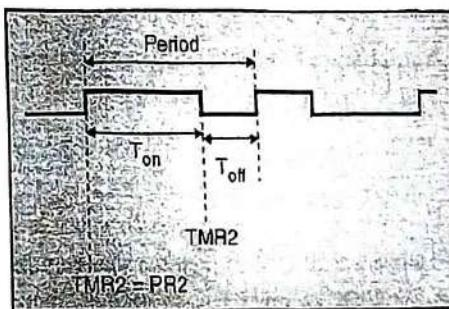

Fig. 1.10.4 : PWM output
- A PWM output has a fixed period and a varying time for which the output stays high as shown in Fig. 1.10.4. The frequency of the PWM is the inverse of the period (1/period). The duty cycle is given by the formula :